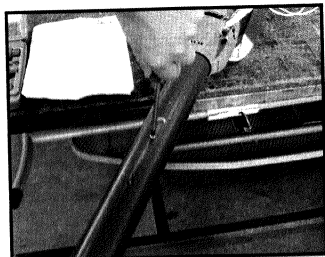

Fig. 45
3. Remove the screw in the Main Standard that was behind the Handle Assembly. This screw secures the Winding Mechanism within the Main Standard (Fig. 45).